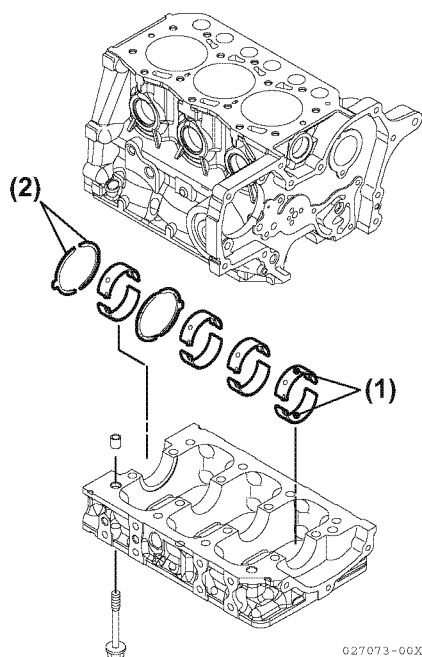

Figure 6-89
2. Install new bearing inserts (Figure 6-89, (1)) and thrust bearing (Figure 6-89, (2)) in the cylinder block and main bearing caps. Be sure the oil holes in the upper bearing shells align with the oil ports in the cylinder block. Apply a liberal coat of clean engine oil to the bearings and crankshaft journals.